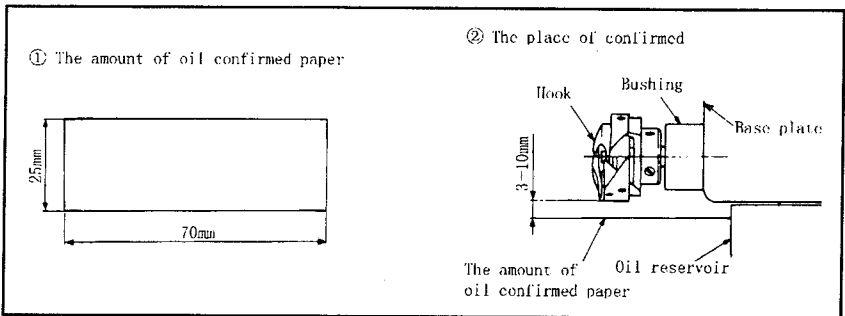
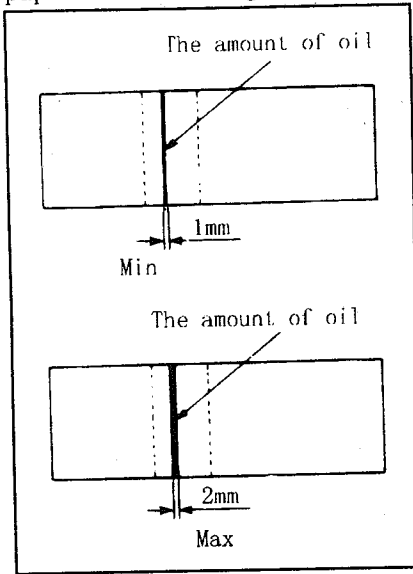
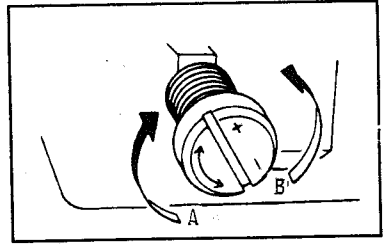

Fig.7
Fig.8
Fig.9
### 3. ADJUSTING THE AMOUNT OF OIL SUPPLIED TO THE HOOK ( Fig. 7 , Fig. 8 , Fig. 9 )
- 1) After cooling, the machine may be idling for three minutes ( operating continued properly ). ( Fig. 7 )
#### \* The proper amount of oil manual ( Fig. 8 )
**\* Adjusting the amount of oil supplied to the hook ( Fig.9 )**